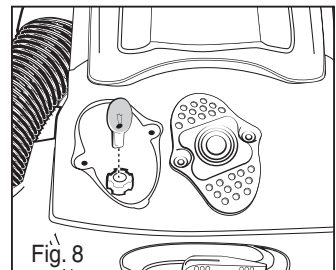

Fig. 8
- 2) Push in new bulb, replace lens cover and replace screw (Fig. 8).